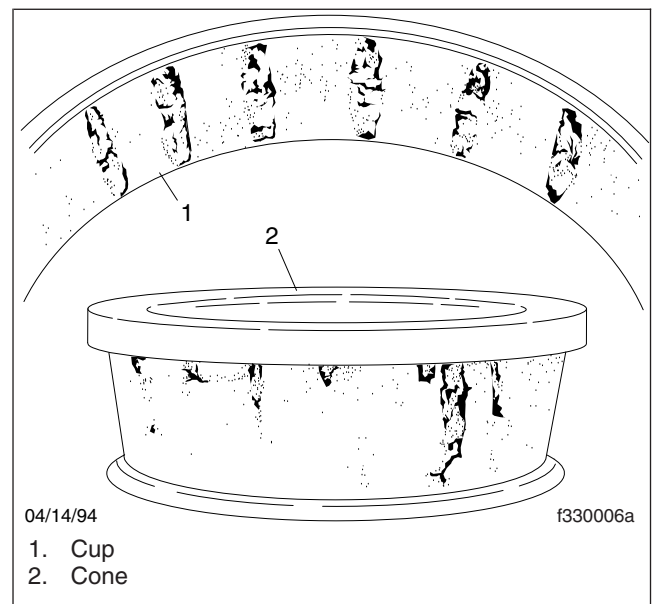

Fig. 3, Spalling (Flaking) of Wheel Bearing Assembly
3. Remove all the old grease or oil from the surfaces of the wheel bearing cups. Inspect the wheel bearing cups for cracks, wear, spalling, or flaking. See Fig. 3. Replace the cups if damaged in any way. See Subject 120 or Subject 170.
- Spalling (flaking) of the bearing cup, roller, or cone surfaces. See Fig. 3.